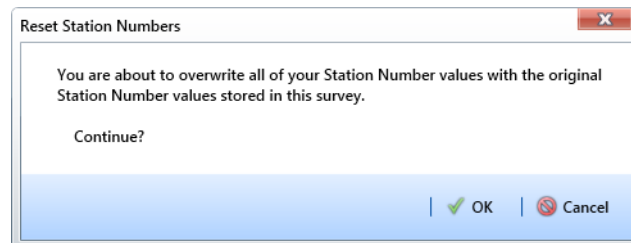

Figure 6-64. Reset Station Numbers
- 6 Click  **Apply**. When the *Reset Station Numbers* message displays, click  **OK** to reset all station numbers or  **Cancel** to cancel the operation (Figure 6-64).